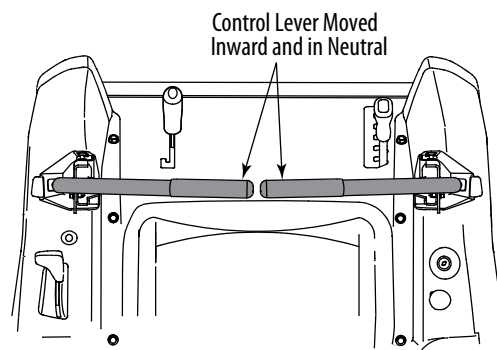

Figure 5-2
- Move the RH and LH drive control levers inward in the neutral position. Refer to Figure 5-2.